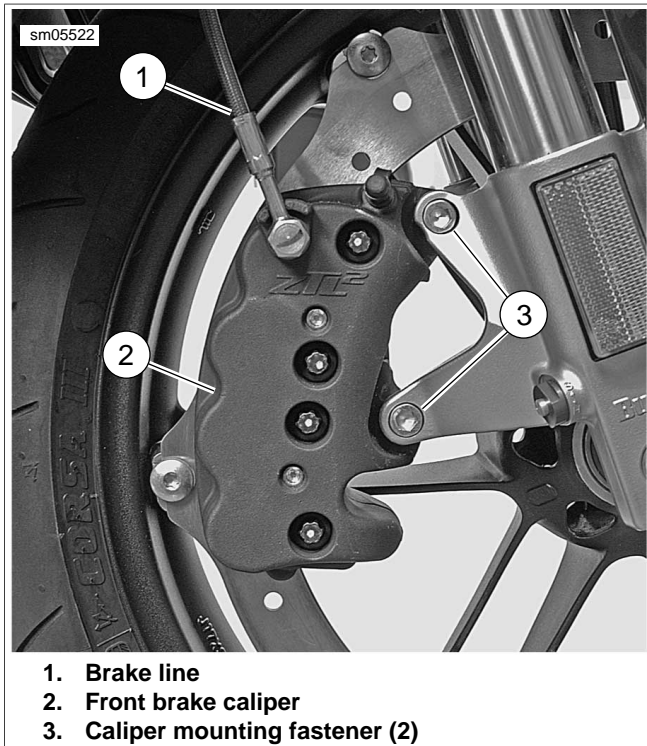

Figure 2-46. Front Brake Caliper Mounts
2. Remove caliper banjo bolt (2) and two copper washers to disconnect brake line from caliper. Discard copper washers.
4. See Figure 2-46. Remove P-clamp attaching brake line to right side of lower fork clamp.
2. See Figure 2-46. Disconnect brake line (1) at caliper (2).
3. Remove caliper mounting fasteners (3).